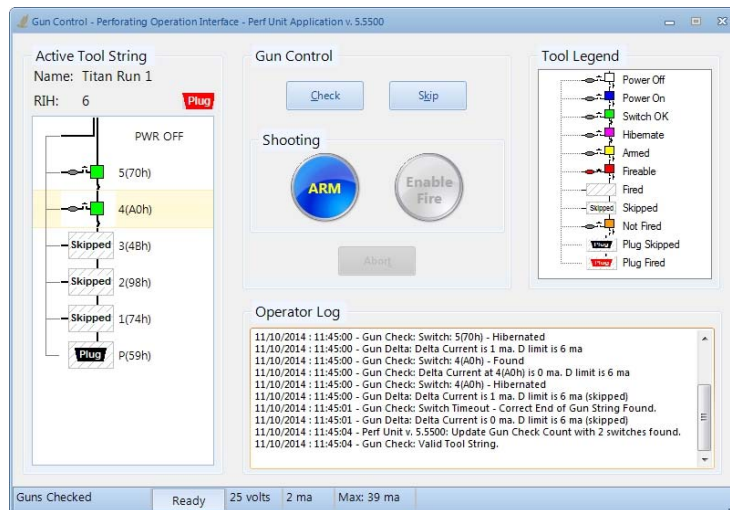

Figure 46
8. Shown in Figure 46 is the result of a successful Gun Check after performing a gun skip on the Plug and the Guns. The tool string can now be used.